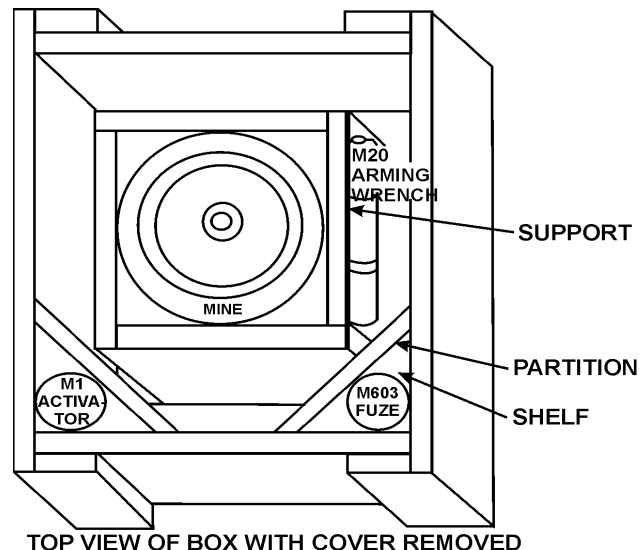
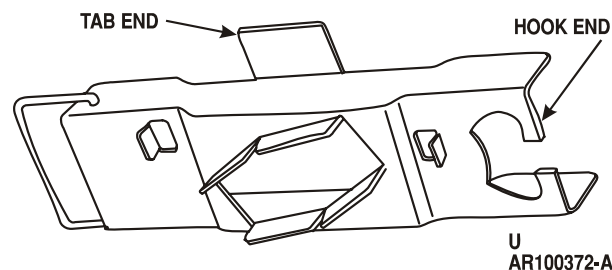
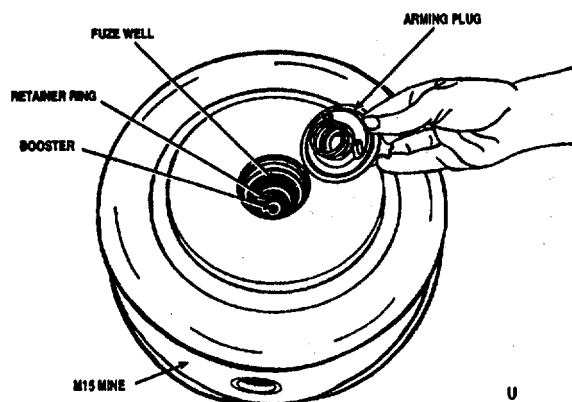

Figure 2-19. Packing box for mine M15 and M624, fuze M603, and activator M1.
Figure 2-20. Arming wrench M20.
Figure 2-21. Fuze well.
- (1) Remove mine from packing box (fig. 2-19) and examine mine for dents, cracks, or other damage. If mine is damaged, set it aside and remove another mine.
- (2) Using arming wrench M20 (fig. 2-20), unscrew arming plug by turning plug counterclockwise; remove plug from mine.
- (3) Examine fuze well for foreign matter. If present, remove. Water in fuze well can result in duds in areas where temperature falls below freezing (fig. 2-21).
- (4) Assure booster retainer is seated in fuze well. If retainer is missing, replace mine (fig. 2-21).
- (9) Remove safety clip from between pressure plate and body of fuze. (Can be done with hook end of wrench M20.) Retain safety clip for future use, if required to disarm mine.
(10) Insert fuze into fuze well. Assure fuze is seated securely on top of booster retainer. Put no pressure on pressure plate when handling fuze.
- (11) Check clearance of pressure plate of fuze in fuze well by using tab end of wrench M20 (fig. 2-20). If pressure plate is too high, the bottom of the plate will interfere with the movement of the arming shutter in arming the mine. If fuze does not fully seat, remove and replace with another fuze.
- (1) Remove mine and arming wrench from packing box (fig. 2-19).
- (2) Inspect mine for serviceability. Check for cracks, dents, or other signs of damage. If damaged, replace with new mine. Mark and return damaged mine to supply.
- (3) Using arming wrench M20 if necessary (fig. 2-20), unscrew arming plug by turning plug counterclockwise; remove plug from mine (fig. 2-21).
- (4) Examine fuze well for foreign matter. If present, remove. Water or dirt in fuze well can result in duds.
- (5) Assure booster retainer is seated in fuze well. If retainer is missing, replace mine (fig. 2-21). Mark and return damaged mine to supply.